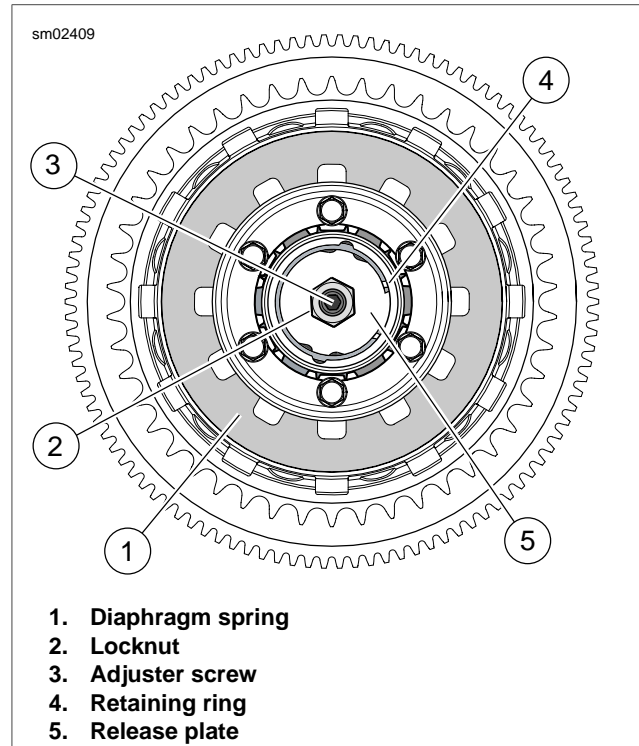

Figure 6-13. Clutch
7. See Figure 6-13. Install release plate (5) with locknut (2) and adjuster screw (3) into clutch hub bore. The word "OUT" stamped on the release plate should face outward.